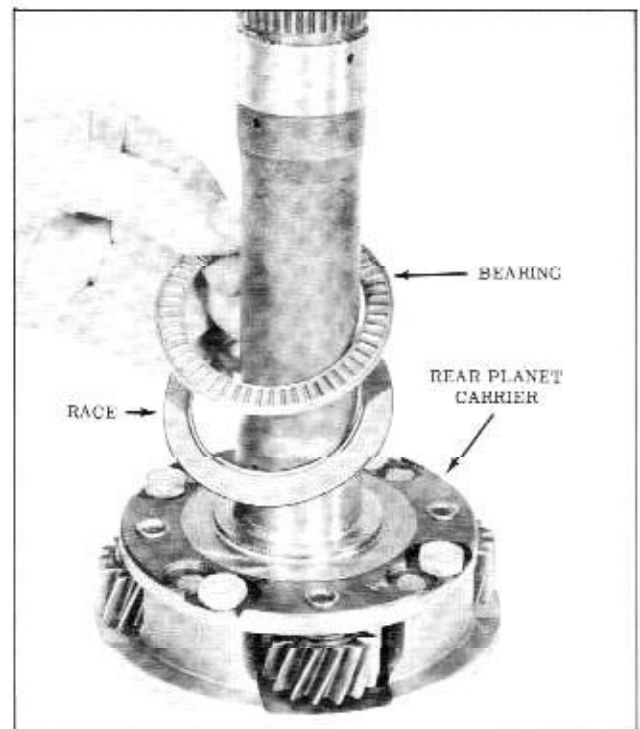

Fig. 3-106 Thrust Bearing and Races
18. Install bearing race (inner flange out) and bearing on rear planet carrier. Retain with petrolatum. (Fig. 3-106)